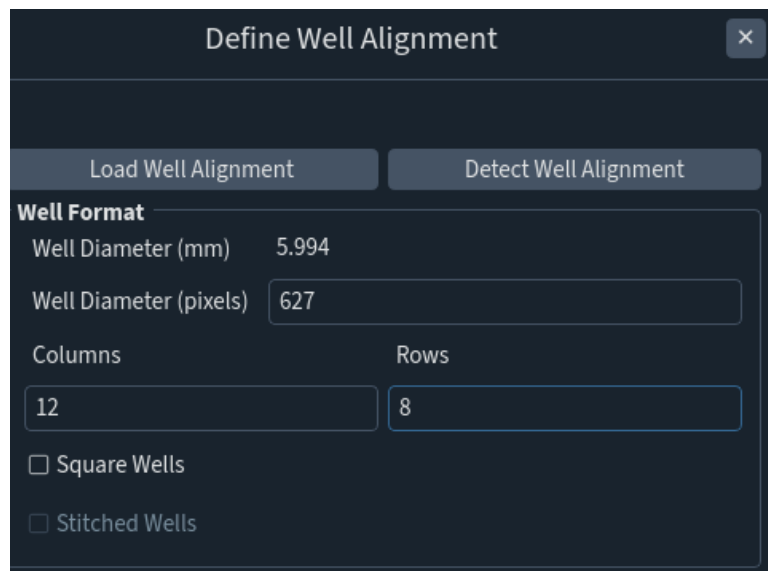

Fig 27: Well Alignment panel
- 2) Input the number of columns and rows corresponding to the well plate in use. 96-well plates have 12 columns and 8 rows, 48-well plates have 8 columns and 6 rows, and 24-well plates have 6 columns and 4 rows as shown below. **For machine learning tracking the diameter value is specific for each tracking model and for proper tracking and analysis functionality it is required to enter 1024 pixels for 96-well, 1408 pixels for 48-well, and 2048 pixels for 24-well.** The exact diameter in millimeters will update automatically and may vary slightly between systems depending on the calibrated pixel width (Fig 27).